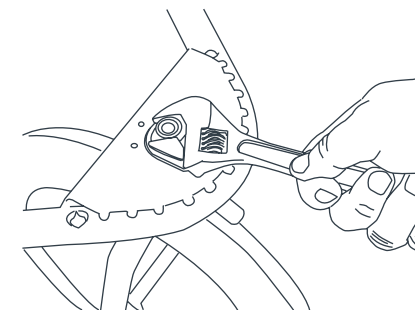

Fig. 21
- 21)** • If you experience front wheel wobble that is beyond what is normal for use while walking or jogging you may have to adjust the front wheel housing nut. This nut is located under the footrest located at the front of the jogger. You can use crescent, box, or open end wrench to tighten the nut (Fig. 21). **DO NOT OVER TIGHTEN** this can cause damage to the wheel housing.